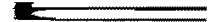

Figure 1.4 GLOBEX Display - Freeform Style
- **Freeform** where the trader can move or overlap the various windows and decide which windows should display. An example of the freeform style is shown in Figure 1.4.